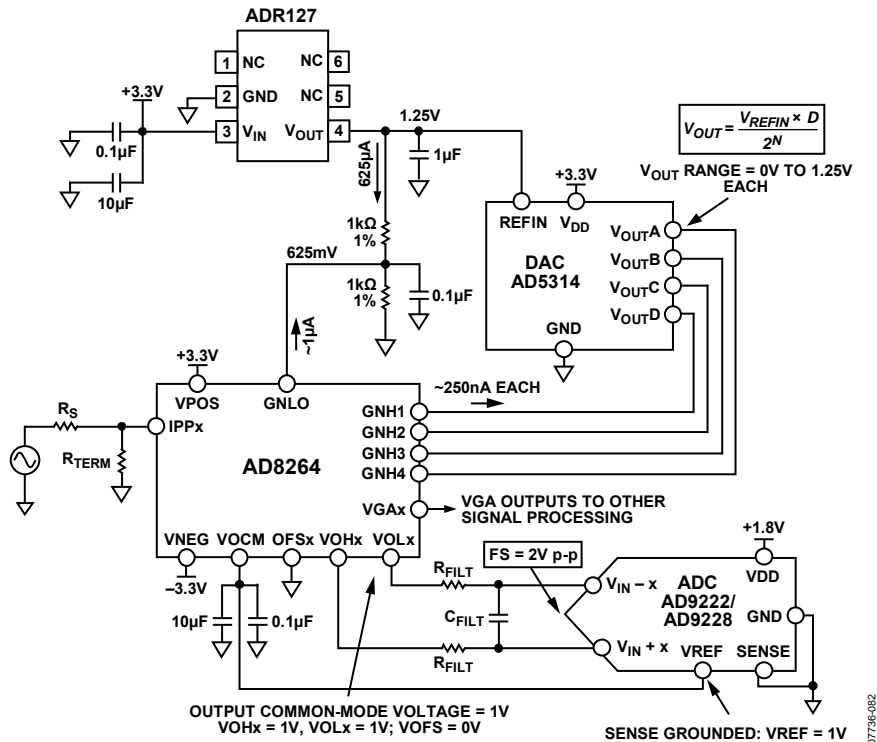
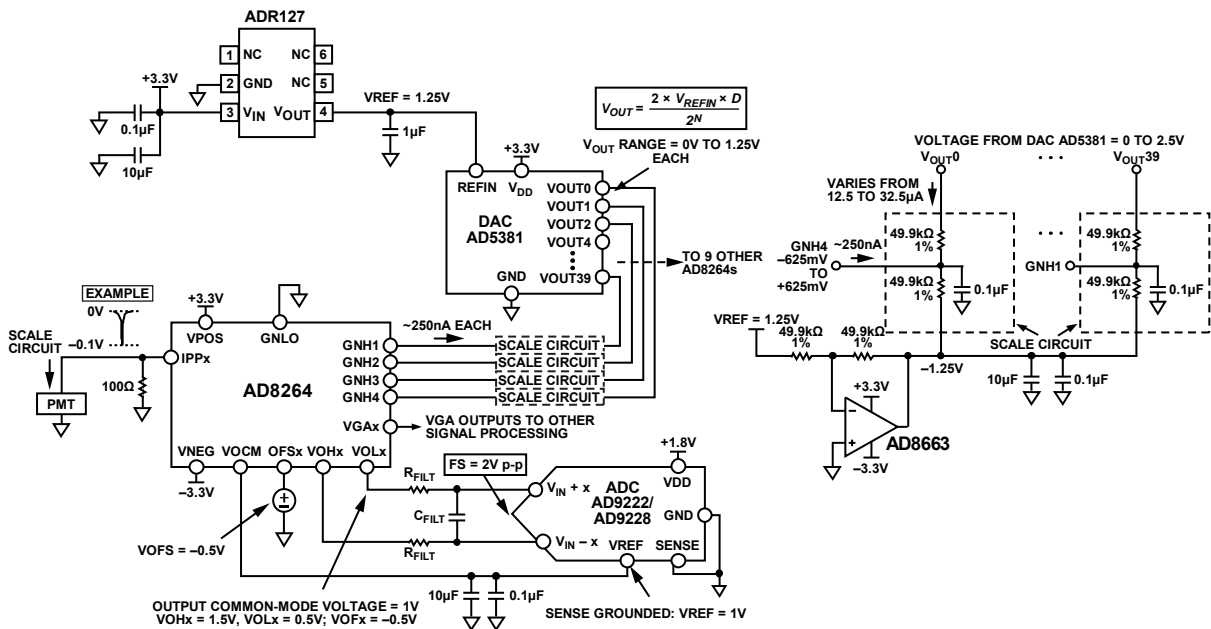

Figure 112. Application Concept of the **AD8264** with the **AD5314** 10-Bit DAC and the **AD9222/AD9228** 12-Bit ADC
Figure 113. Concept Application of AD8264 with 40-Channel AD5381 12-Bit, 3 V DAC and AD9222/AD9228 12-Bit ADC
The **AD8264** is particularly well suited for use in the analog front end of medical PET imaging systems. Figure 112 shows how to use the **AD8264** with the **AD5314** (a 4-channel, 10-bit DAC) and the **AD9222/AD9228** (an octal or quad, 12-bit ADC, respectively). The DAC sets the gain of the **AD8264**. Note that the full gain span of 24 dB is achieved with this setup because the gain control input range of the **AD8264** is very close to 1.25 V. The GNLO pin must offset by 1.25/2 = 625 mV because the gain control input is bipolar around the voltage applied at GNLO. This is done with two 1 kΩ, 1% resistors. The approximately 1 μA of bias current flowing from the GNLO pin does not contribute a significant error because the basic gain error of the **AD8264** is the limiting factor.
Figure 112 also includes the DAC output equation, which indicates that the output can vary between 0 V and VREF = 1.25 V.
The single-ended-to-differential amplifier of the **AD8264** amplifies the VGA output signal by 6 dB and can provide the required dc bias of the **AD9222/AD9228**, as shown in Figure 112. The ADC is connected with the default internal reference because the SENSE pin is grounded. With this connection, the **AD9222/AD9228** VREF pin is an output that provides 1 V; this is then connected to the VOCM input of the **AD8264**, which sets the output common-mode voltage of the VOHx and VOLx pins to 1 V. This voltage is very close to the recommended optimal value of VDD/2 = 0.9 V. With this configuration, the ADC inputs are set to a full-scale (FS) of 2 V p-p.
The dc connected concept example in Figure 113 is an application with the 40-channel AD5381, 3 V, 12-bit DAC. The main difference between this example and Figure 112 is that, for the same ADR127 1.25 V reference, the full-scale output of the DAC is from 0 V to  $2 \times V_{REFIN} = 2.5$  V. Two options for gain control include the following:
- Use the same circuit as in Figure 112 but use only half the DAC output voltage from 0 V to 1.25 V. This is the simplest solution, requiring the fewest extra components. Note that the overall gain resolution increases by one bit to 11 bits over the 10-bit AD5314.
- Ground GNLO and scale the DAC output so that the GNHx inputs vary from  $-0.652$  V to  $+0.625$  V. Figure 113 shows a possible circuit implementation using a divider between the DAC output and a  $-1.25$  V reference.
Figure 113 shows how the AD8264 is connected in a PET application. The PMT generates a negative-going current pulse that results in a voltage pulse at the preamplifier input and a differential output pulse on VOLx and VOHx.
A convenient method of verifying and customizing the signal chains shown in Figure 112 and Figure 113 is by ordering the corresponding evaluation boards available on [www.analog.com](http://www.analog.com). The AD8264-EVALZ is a platform through which the user can quickly become familiar with the features and performance capabilities of the AD8264. See the Evaluation Board section for more information.